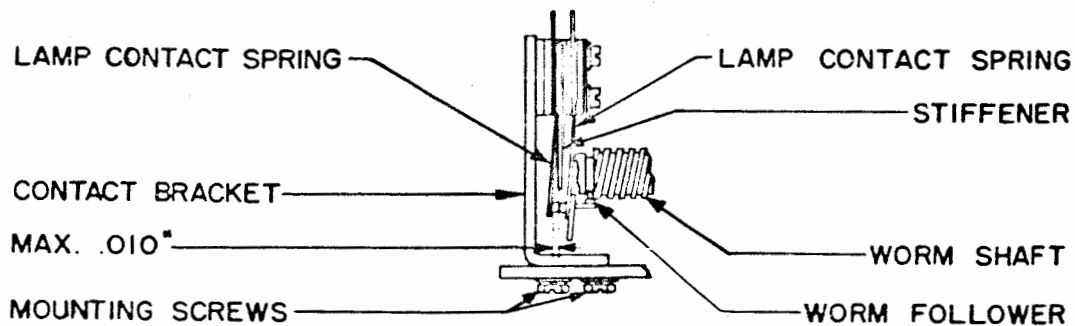

Figure 4
2.09 Contact Bracket: The front lamp-contact spring should clear the lower edge of its stiffener by not more than 0.010 inch with the lamp contacts closed and the worm-follower resting in the groove at the front of the worm. (See Figure 4.)